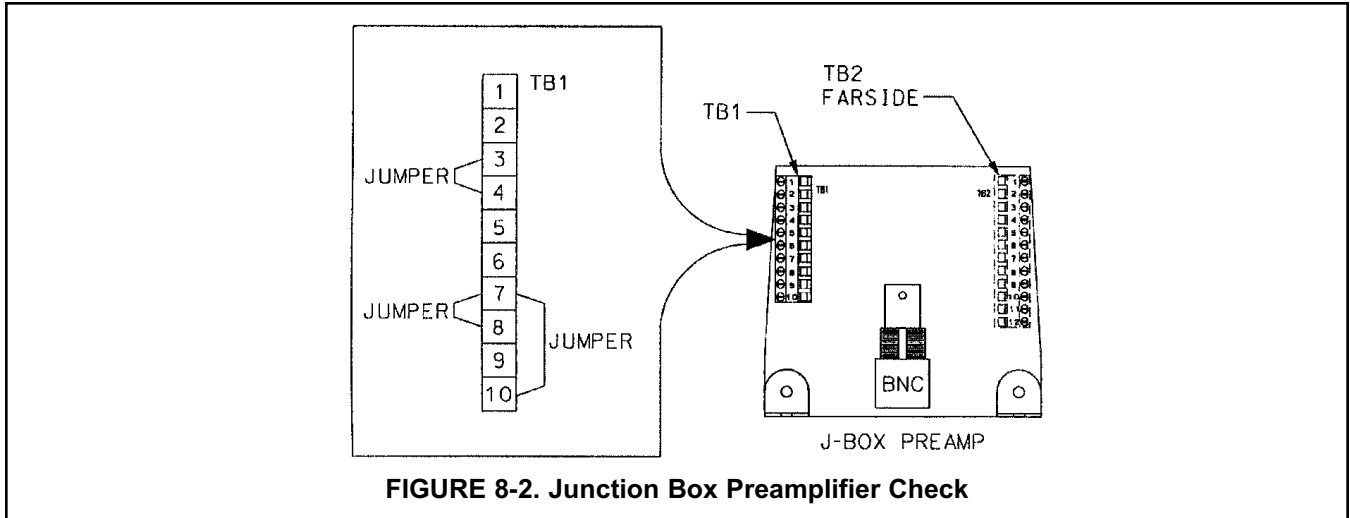

FIGURE 8-2. Junction Box Preampifier Check
### A. Preamp in a junction box (Figure 8-2)
4. Install a jumper between 7 and 10, 3 and 4, and 7 and 8 (see Figure 8-2).